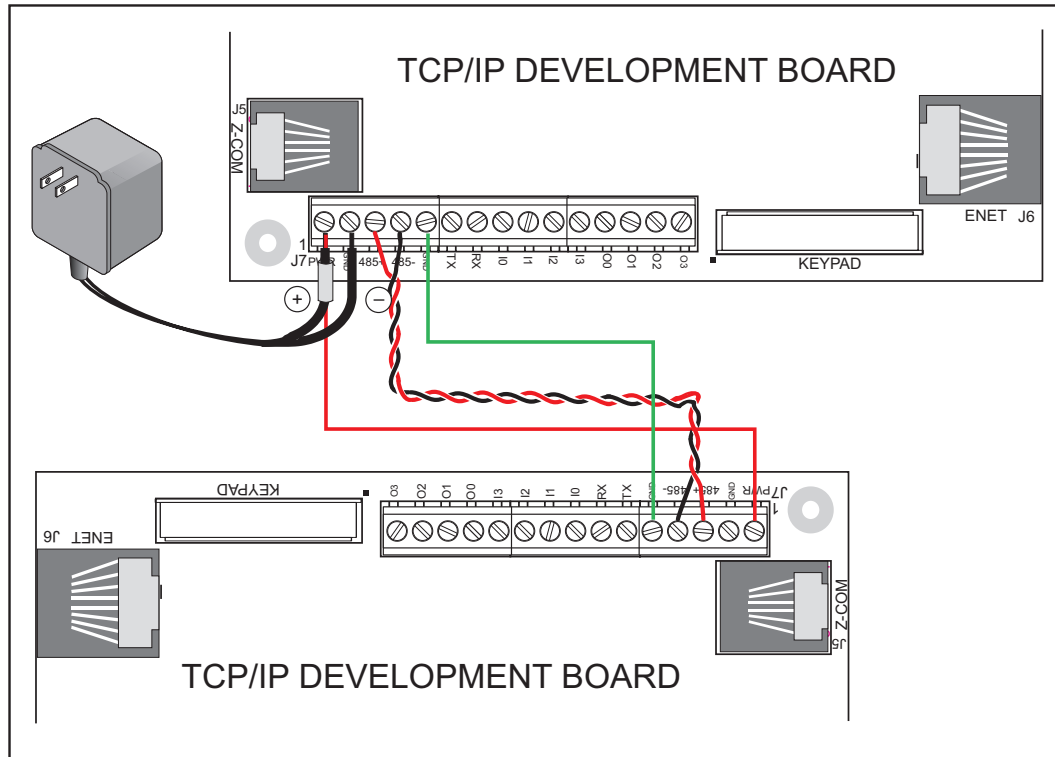

**Figure 9. TCP/IP Development Board Setup
1. Connect RX to TX as shown in Figure 9 below.